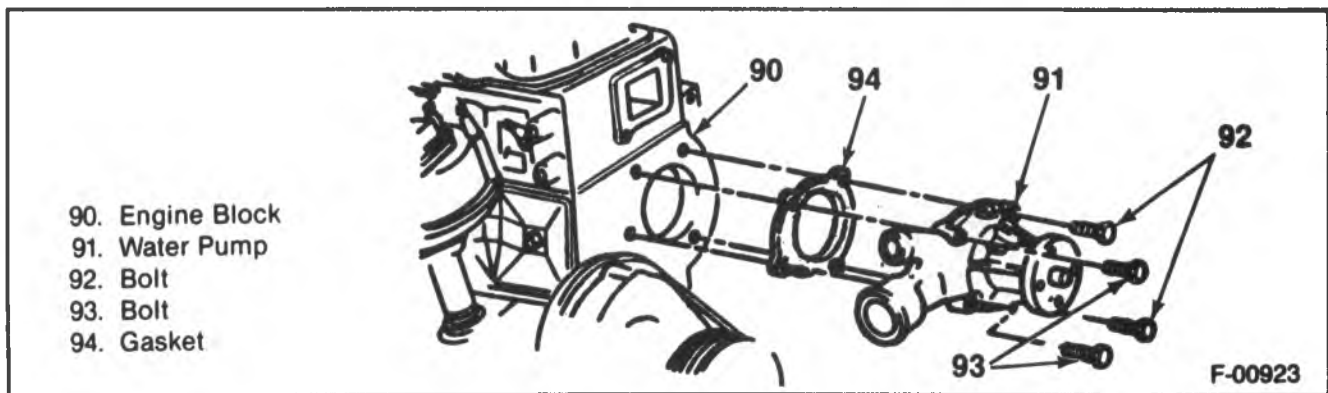

Figure 50 — Water Pump Replacement — 4.8L Engine
- Water pump pulley (70) off the water pump studs (71).
- Lower radiator hose and the heater hose from the water pump (91).
- Bolts (92 and 93) and gasket (94).
- Water pump (91) from the engine block (figure 50).
- New gasket (94) onto the water pump (91).
- Water pump (91) to the engine block (figure 50).